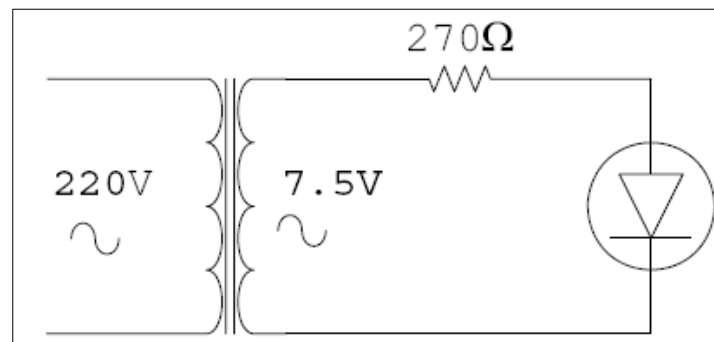

Figure A-2: LED Circuit using AC input
Connect the circuit of Fig. A-2 using the *red* LED. Carefully measure the voltage levels and conduction angles in the forward and reverse directions, using the oscilloscope.
- In the circuit of Fig. A-2, does the power dissipated in the reverse direction serve any useful purpose? How can it be eliminated?